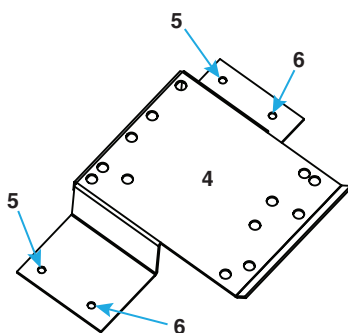

Figure 2. Replacement Motor Support
- (1) For model CAUA, do not remove existing motor support or any other damper linkage.
- (2) For all models **except** CAUA, remove existing motor support and keep all linkage.
3. For all models **except** CAUA, install replacement motor support (4) in same location using screws (5 and 6) as shown in **Figure 2**.